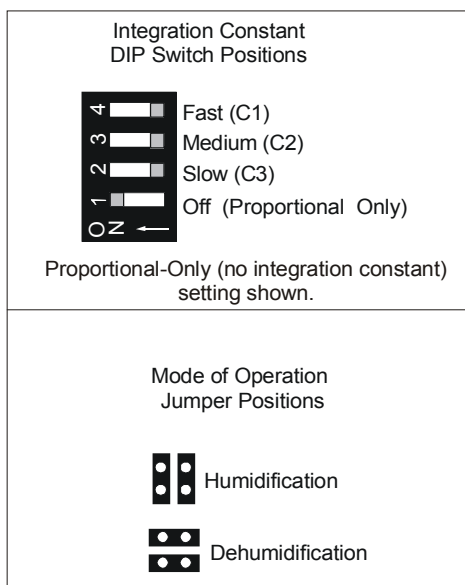

Figure 5: Integration Constant and Mode of Operation Settings
The W351P control has three available integration constants, which allow setup for optimum recovery rate for an application. Use the Integration DIP switch block (see Figure 5) and the guidelines below to set the control for proportional-only or to set the integration constant for proportional plus integral control.
- **Off: Switch 1 to On position, all others Off** provides proportional-only operation. In open loop (without feedback) applications, select Off for proportional-only operation. (See Figure 5.)